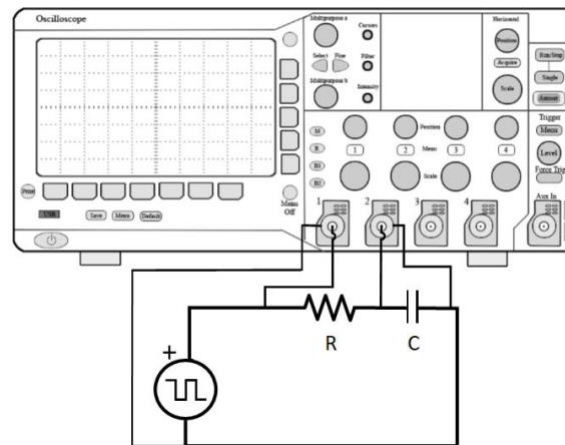

Figure 6. RC circuit connected to an oscilloscope.
- Set up the RC circuit shown in Figure 6 on the breadboard, using an $R = 10\text{ k}\Omega$ resistor, a $C = 47\text{ }\mu\text{F}$ capacitor, and the signal input from the T-splitter BNC/mini-grabber cable.
Goal: Measure the RC time constant using the discharge and/or charge curves for the specified components, using the circuit in Figure 6, for performing a model fit.
Setup: Arrange the resistor in series with your capacitor, as shown in Figure 6.
Setup: Construct the RC circuit in Figure 6 using your homemade capacitor and a $10\text{ k}\Omega$ or $1\text{ M}\Omega$ resistor.